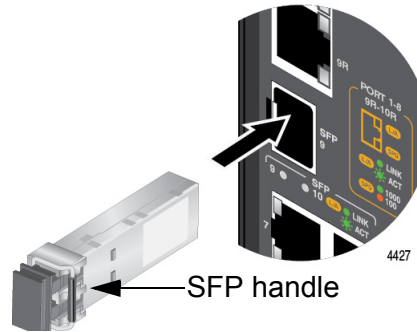

Figure 22. Install SFP Transceiver
3. Position the transceiver with its handle on the right and slide it into the slot until it clicks into place. Refer to Figure 22.